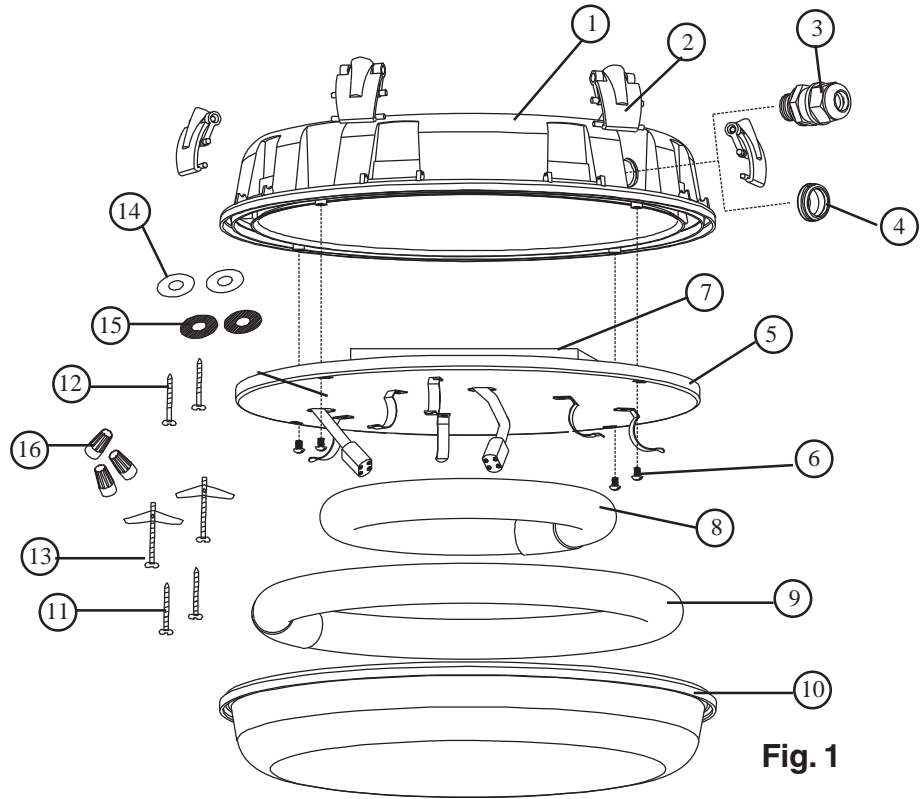

Fig. 1
1. **Open Diffuser Latches (2) and remove Diffuser (10).** Remove lamp pack and place to the side.
2. **Using a philips screw driver, loosen the four Wireway Cover Screws (6).** Rotate Wireway Cover (5) slightly and remove from Fixture Housing (1). (*Note: Wireway cover is inverted for shipping purposes only.*)
3. **Remove fixture components and parts pack(s).** Check that all parts are included. **See Fig. 1.**